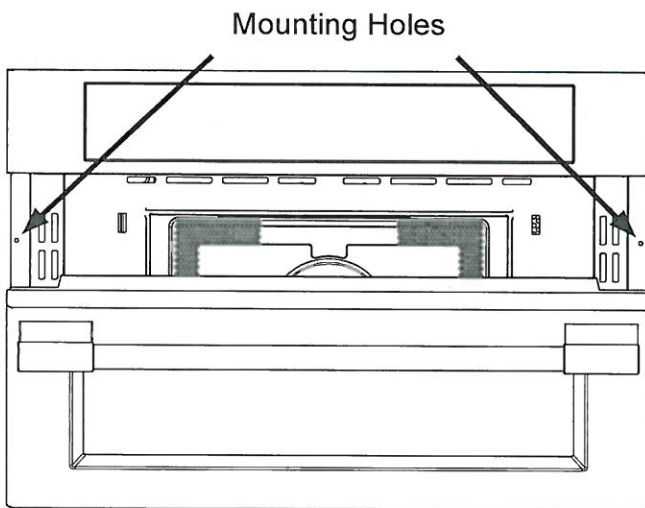

Figure 5: Mounting Screw Holes
1. The mounting holes in the side trims may be used as a template to locate the appliance mounting screw holes (see figure 5).